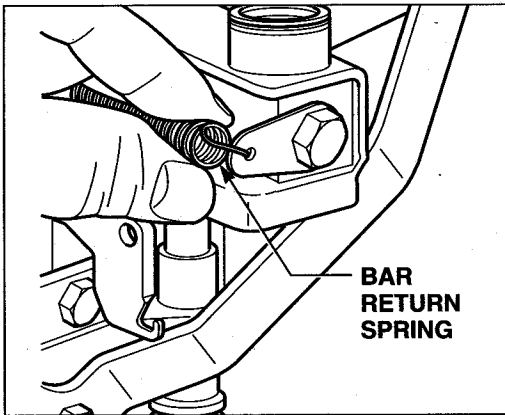

Figure 9
1. Disconnect the bar return spring from the charge bar, Figure 9.